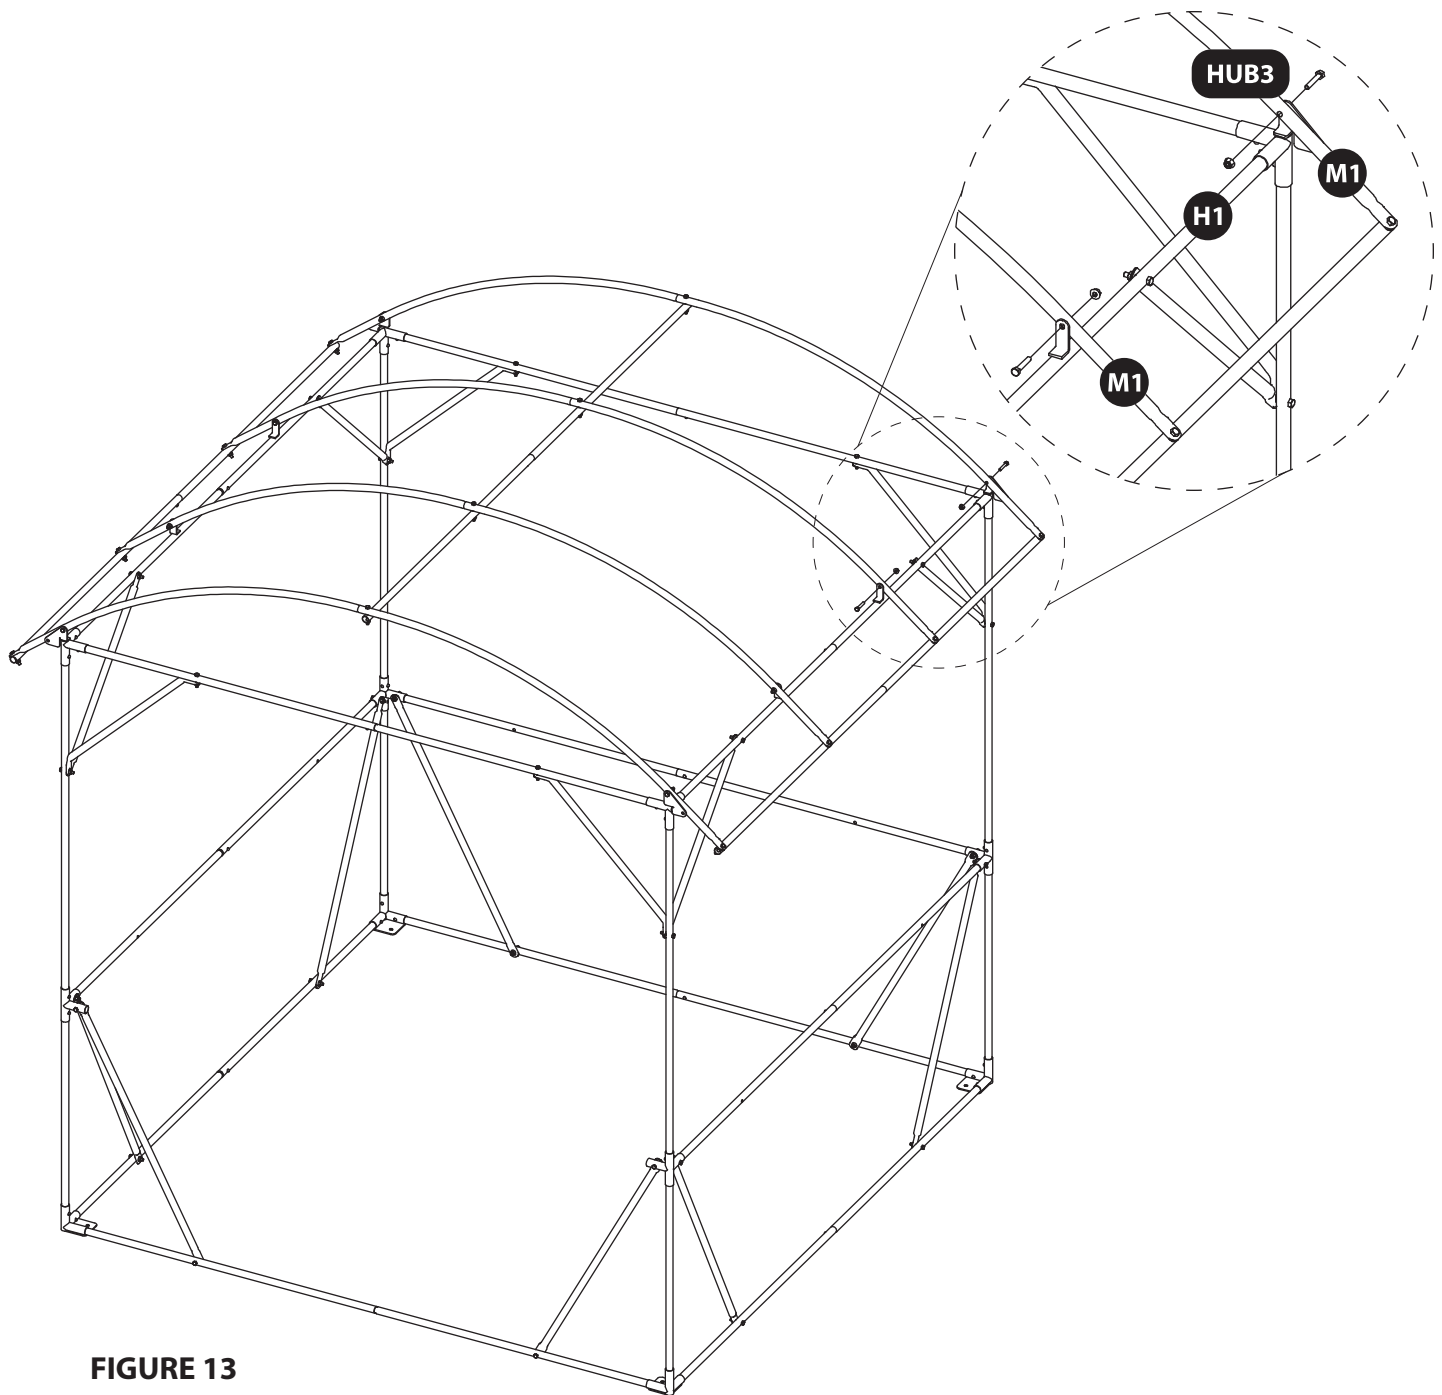

FIGURE 13
25. Attach assembled roof to blind structure using eight M6 x 35mm bolts (20) and M6 nuts (22). **PAY ATTENTION TO ORIENTATION OF THE ROOF! THE ROOF ATTACHES ON THE INSIDE OF THE HUB3 CORNER TABS. SEE FIGURE 13.**